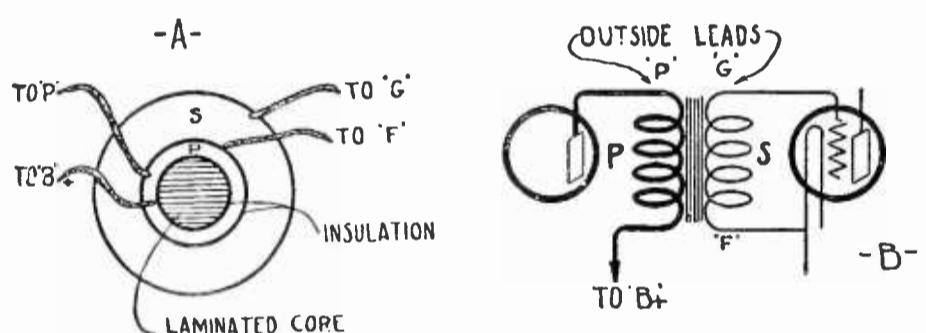

FIG. 2
**M**ANY are the troubles that have resulted from improperly connected primaries and secondaries of audio-frequency transformers. It has been computed that the average percentage of decrease in receiver efficiency for improperly connected transformers is about 70 per cent. In Fig. 2, A shows the side view of a standard transformer. The iron core is wrapped with insulation material upon which is wound the primary; then more insulation, and on top of this, the secondary is wound. The outside or top lead of the secondary coil should be connected to the grid of one tube while the outside of the primary is connected to the plate of the preceding tube. Most manufacturers mark the posts of their transformers so the user may avoid wrong connections. The remaining ends are connected as shown in B. Any alternating energy flowing through the primary must be transformed or induced into the secondary at its maximum efficiency for best results.